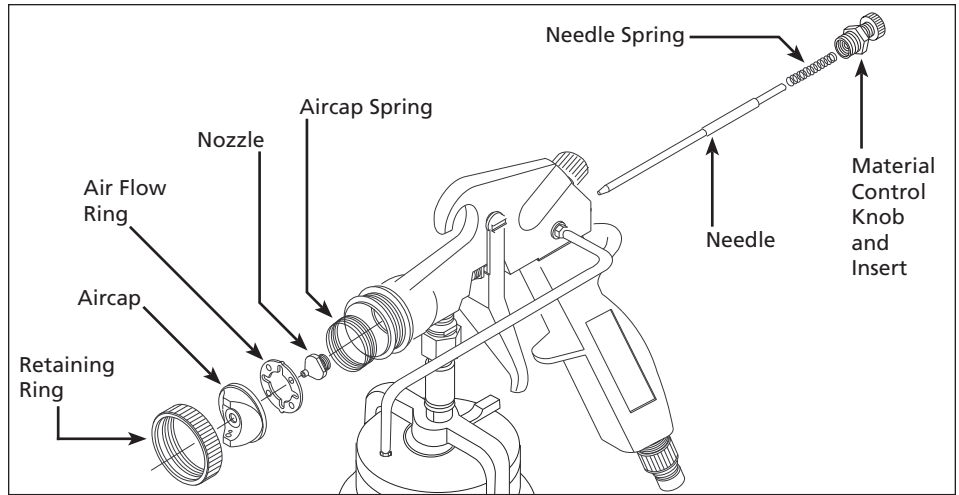

Figure 2 - Needle/Nozzle Installation
1. Remove retaining ring, aircap, air flow ring, aircap spring, nozzle, material control knob, needle spring, and needle assembly (Fig. 2).
NOTICE *The female quick-connect fitting outer sleeve is spring loaded and must be pulled back to be attached or removed from the gun (Fig. 2).*